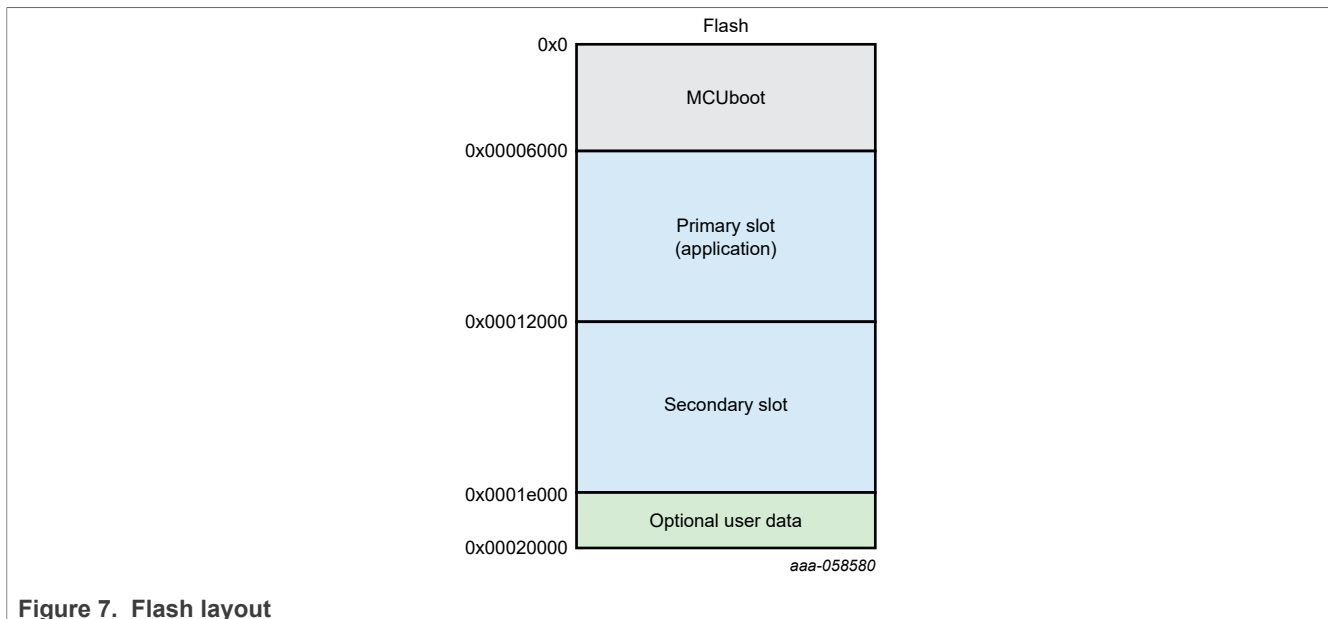

Figure 7. Flash layout
- `frdm-mcxa153-mcuboot-opensource`: It is the bootloader based on MCUboot, and must be downloaded to the "MCUboot" region shown in Figure 7.
- `frdm-mcxa153-ota-mcuboot-basic`: It is an example of an application that provides several commands used to demonstrate the OTA abilities. It must be downloaded to the "Primary slot" region shown in Figure 7.
Figure 7 shows the flash layout of the example: